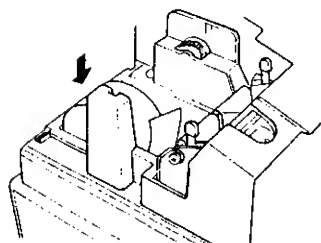

Fig. 4
5. Place the paper roll in the outer-side holder of the two roll holders. (Fig. 4)